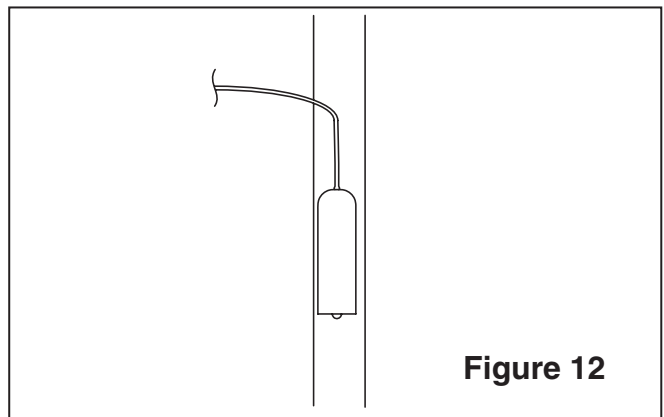

Figure 12
12. Orient the sensing bulb with the tube exiting out the top to the vapor line extension as shown in Figure 12. Use the supplied TXV bulb strap shown in Figure 13 to secure the bulb in place. In some cases, the bulb strap is required when the new bulb size is different from the existing sensing bulb.